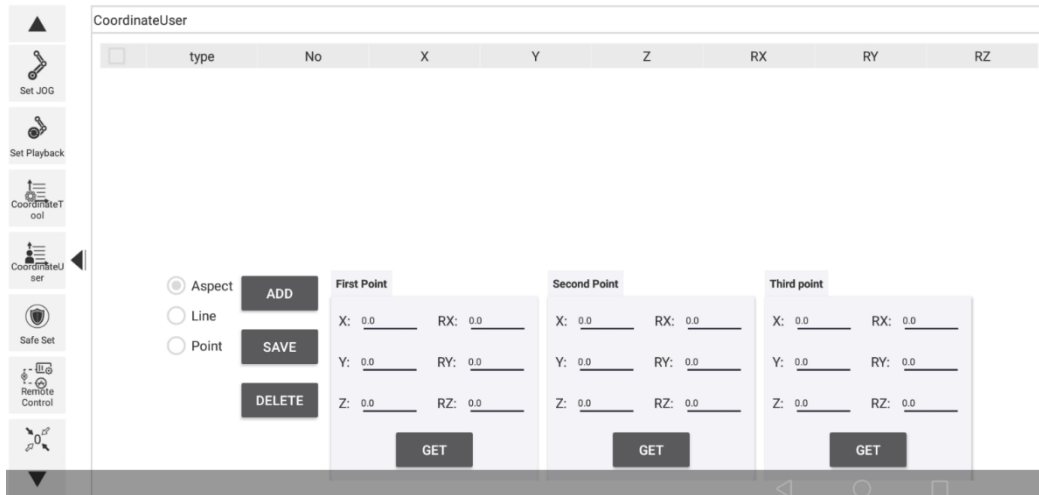

Figure 5.8 User coordinate system
**Step 1** Click **Coordinate User** on the **Setting** page. As shown Figure 5.8.